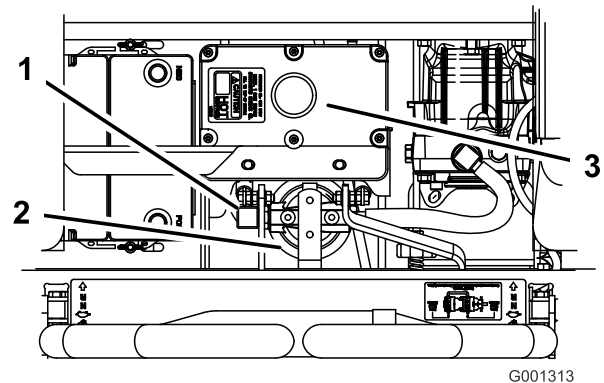

Figure 70
4. Remove the right-hand hydraulic line that comes into the adapter (Figure 70).
6. Install the right-hand hydraulic line to the adapter (Figure 70).